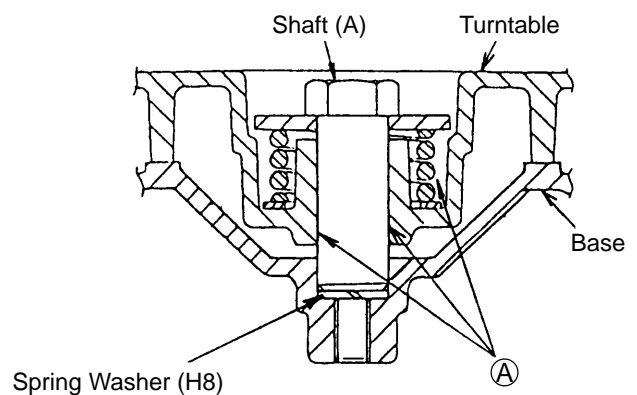

Fig. 8
#### (5) Assembly of the Turntable: (See Fig. 8)
During assembly, liberally apply grease (Hitachi Motor Grease, Code No. 930035, is recommended) on the portions marked (A) in Fig. 8.